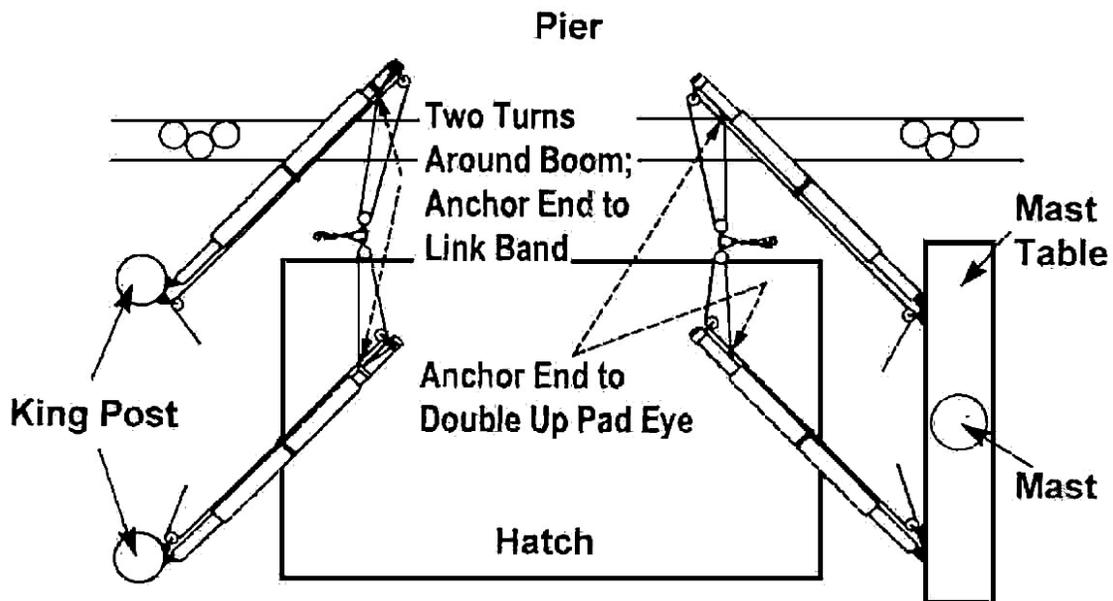

Figure 3-130
1. Reeve the ends of the cargo runners through 12- and 14-inch blocks (see Figure 3-130).